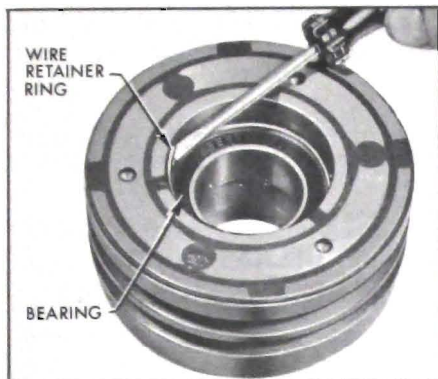

Figure 11-103—Removing Bearing Retainer Wire
4. Remove pulley bearing wire retainer with a small screwdriver. See Figure 11-103.